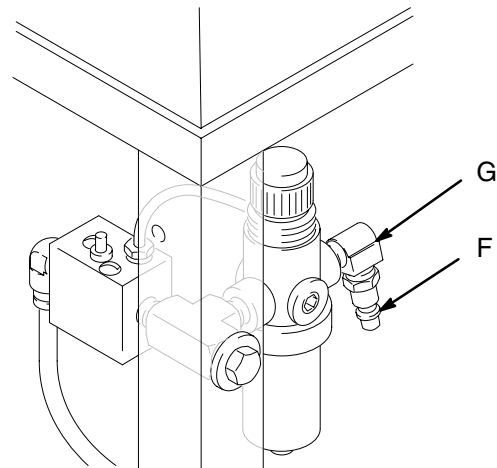

Fig. 1
3. Install a 1/4 in. npt male coupler (F), that is compatible with the quick disconnect of your air supply line, into the air inlet adapter (G). See Fig. 1.
4. Connect the air line (H) to the coupler (F).